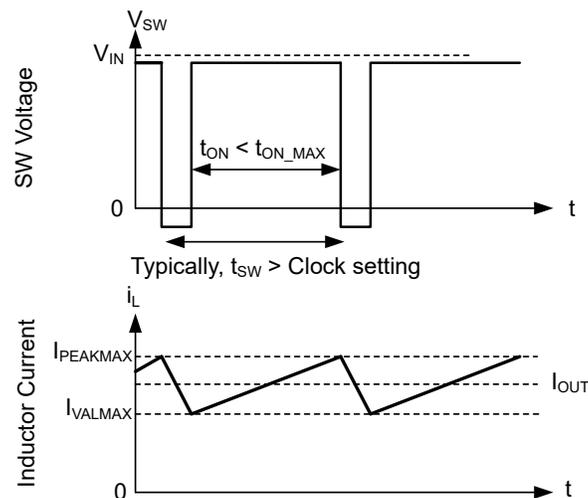

図 7-8. Current Limit Waveforms
When the low-side (LS) switch is turned on, the current going through it is also sensed and monitored. Like the high-side device, the low-side device has a turn-off commanded by the internal error amplifier loop. In the case of the low-side device, turn-off is prevented if the current exceeds this value, even if the oscillator normally starts a new switching cycle. Also like the high-side device, there is a limit on how high the turn-off current is allowed to be. This limit is called the low-side current limit, $I_{LS-LIMIT}$ in 図 7-8. If the LS current limit is exceeded, the LS MOSFET stays on and the HS switch is not to be turned on. The LS switch is turned off after the LS current falls below this limit and the HS switch is turned on again as long as at least one clock period has passed since the last time the HS device has turned on.